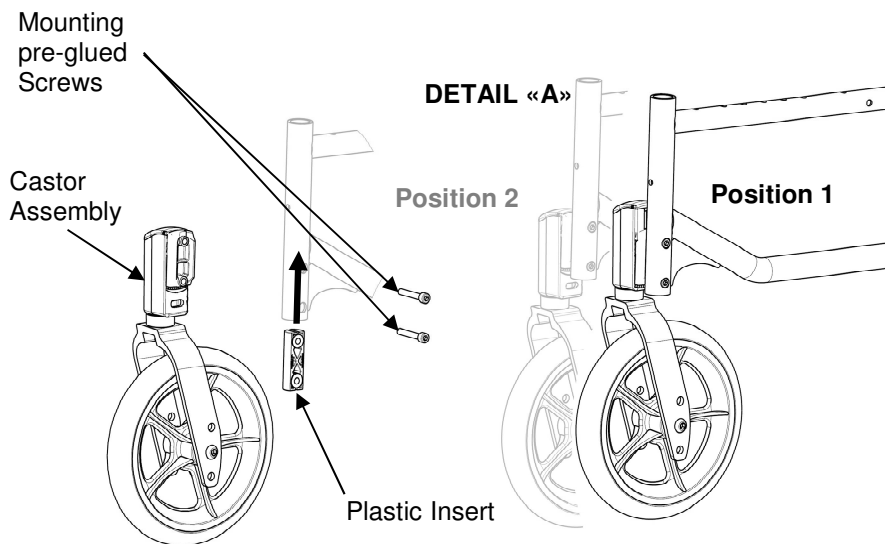

FIGURE 5.11 Adjusting Castor Height Position
NOTE: For this procedure, refer to FIGURE 5.11.
2. Move the castor housing assembly to one of two positions. Refer to Detail “A” of FIGURE 5.11. Always check that the plastic insert is present before tightening the mounting screws.